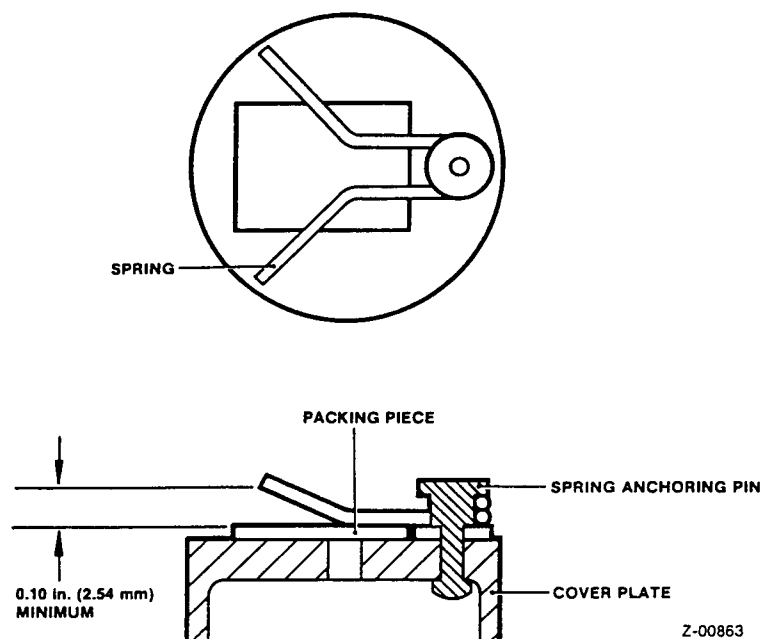

Fig 7 Checking the sear spindle centring spring
18.1B Refer to fig 7 and place a suitable packing piece under the legs of the sear spindle centring spring to maintain the anchored portion of the spring parallel with the face of the cover plate. Measure the distance from the face of the packing piece to the end of the spring. The minimum dimension shall be 0.10 in. (2.54 mm). The dimension may be increased to ensure that the legs of the spring do not protrude beyond the outer edge of the cover plate.